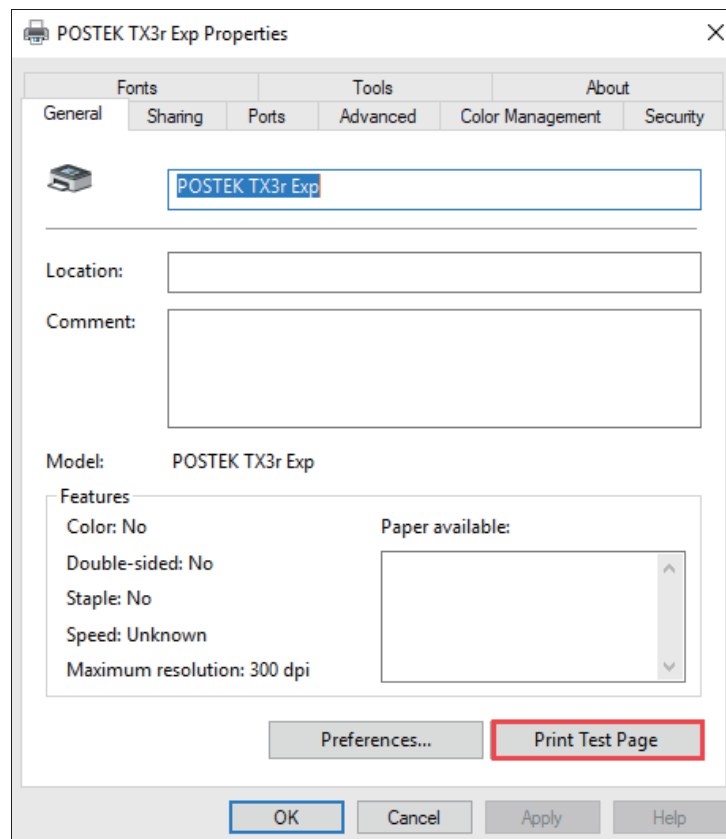

Figure 2-43 Print Test Page
11. Print a test page to see whether the printer is connected properly. As shown in Figure 2-43.